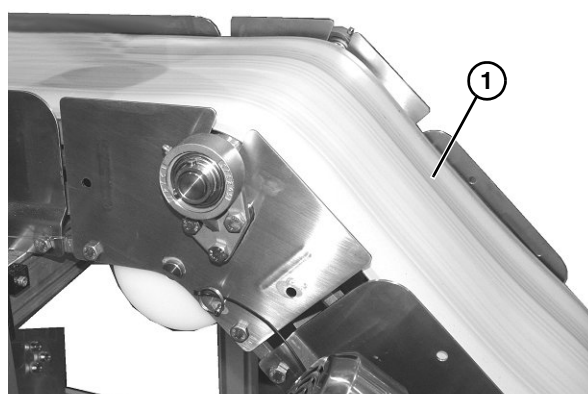

Figure 22
1. Slide belt (**Figure 22, item 1**) over knuckles and onto top and bottom of wear strips.